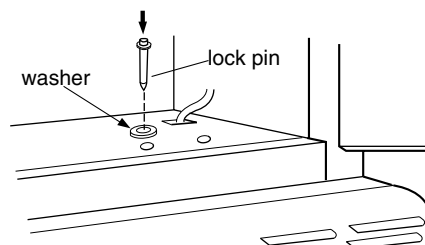

Figure 28
3. Drop the lock pin and washer assembly into hole "N" and push pin down as far as it will go. See Figure 28.